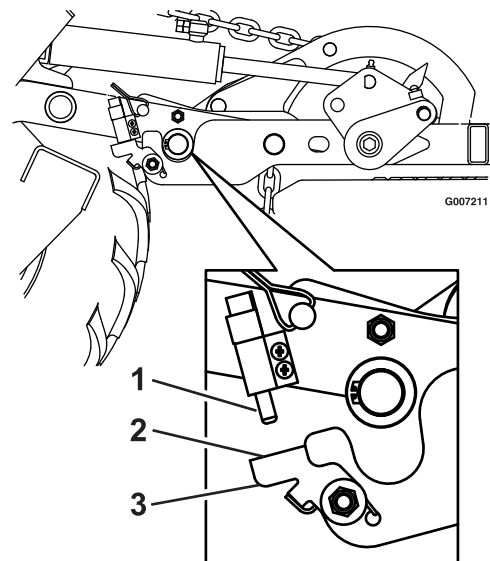

Figure 8
3. Check the PTO circuit. See the FR524, FR604, and FR724 Operator's manual to become familiar with the deck operation. Open the folding deck latches, **disengage** the park brake, move the motion control levers in to **neutral**, and **disengage** the PTO. **Lower** the deck until the PTO switch arm is no longer depressing the PTO "kill" switch (see Figure 8).